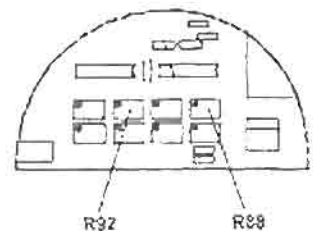

Figure 3-49. MBP output calibration.
(6) Set the "MBP POWER" to 70 watts by depressing the up ( $\Delta$ ) keyboard switch until 70 shows in the left-hand digital display.
(7) Activate a bipolar accessory switch (handswitching forceps) and observe the wattmeter while adjusting resistor R92 (fig 3-49) for 70 watts. Release the accessory switch.
(8) Activate the bipolar accessory switch again and observe the wattmeter while adjusting resistor R88 counterclockwise until it affects the wattmeter indication. Release the accessory switch.
(9) Turn the resistor R88 adjusting screw one full turn clockwise.